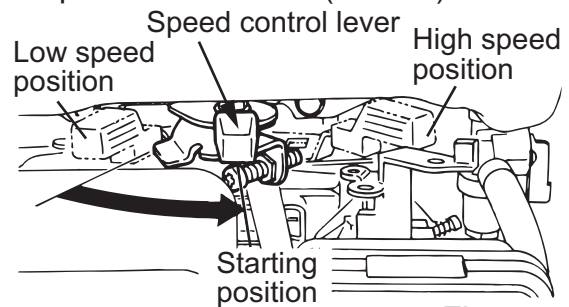

Fig.5
- 3 Open the speed control lever half. (Fig.5)
- 1 If you open the speed control lever at a stroke, this machine starts vibration and moves forward. If you open it slowly, the clutch may slip, so open the speed control lever at a stroke without hesitation. (Figs. 5 & 11)